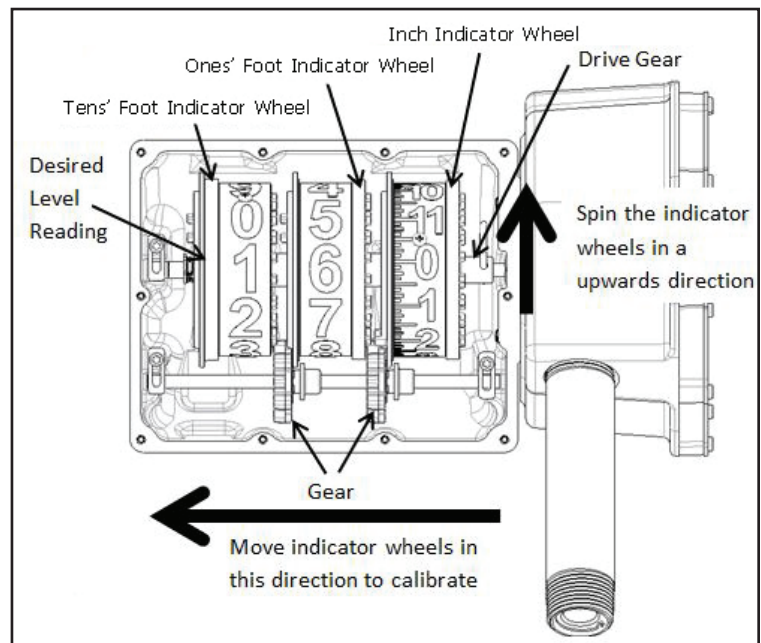

Figure 6
26. Now the gauge can be calibrated to the liquid level you found in step 8. Calibration is done one indicator wheel at a time (See Figure 6.) Start with the inch indicator wheel, grab the indicator wheel and push it to left to clear the drive gear. Indicator wheel must be fully disengaged from
27. Calibration for the foot readings is done in a similar manner pushing the indicator wheels to the left so they clear the gears, that are offset below the indicator wheels (See figure 6.) Calibrate the ones' foot indicator wheel first and the tens' foot indicator wheel last. Note desired level readings need to be in the center of the viewing window.